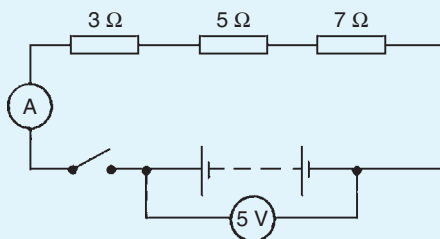

Figure 5.56
- With the switch in Fig. 5.56 closed, the ammeter reading will indicate: